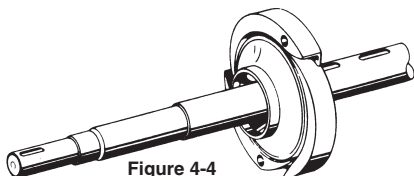

Figure 4-4
4. Insert the shaft/impeller assembly into the diffuser (#9IN). When correctly oriented, the impeller outlet openings will line up with the diffuser openings and the impeller hub will fit into the bore of the diffuser. (refer to figure 4-4)